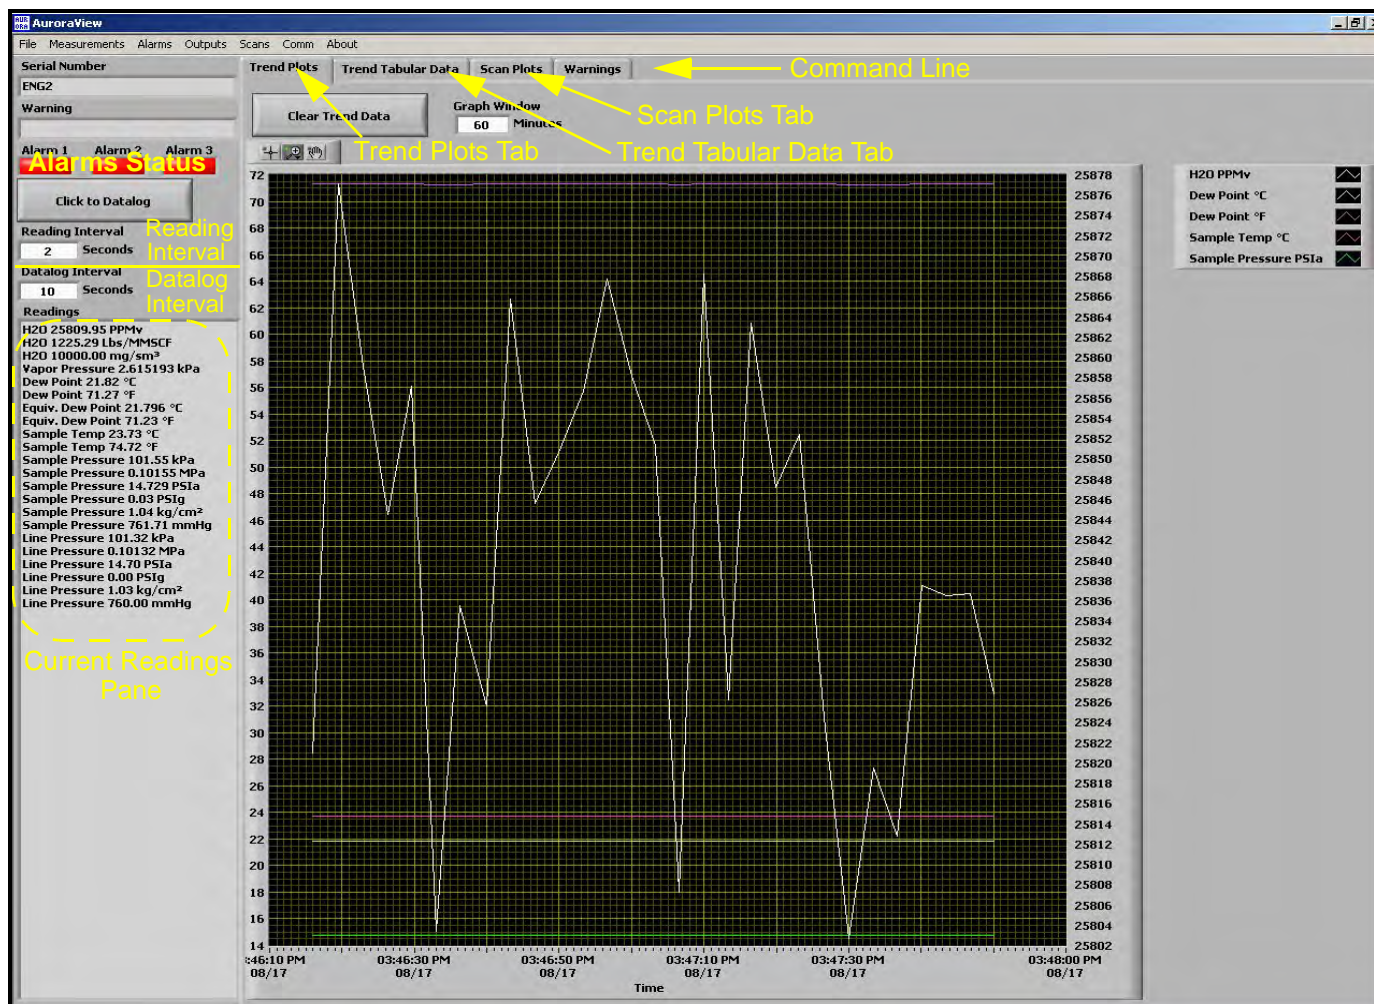

Figure 54: AuroraView Main Screen
2. AuroraView boots up and displays a screen similar to *Figure 54* below.